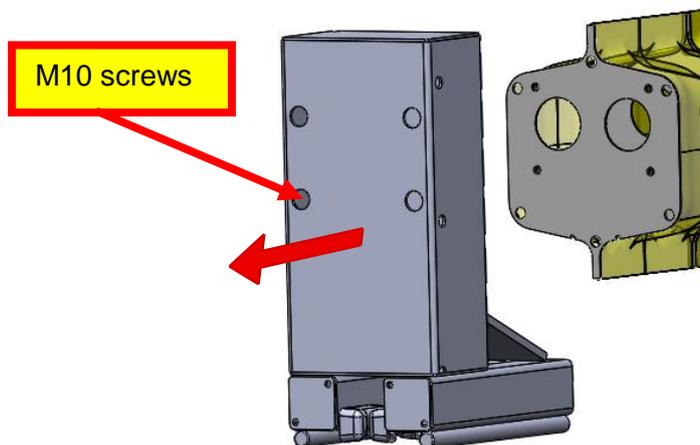

Fig. 23: Frontal trolley
1. Remove the reflective sticker (if present) and unscrew the 4 M10 screws which connect the trolley to the collapsible beam(Fig. 23).
2. Slide the Trolley forward along the rail through a handling device and pull the component out (Fig. 23).